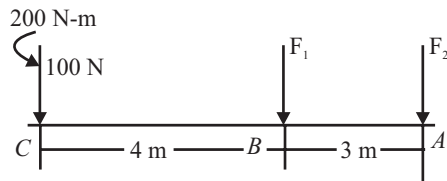

Fig. 7.42
Q. 38: Two parallel forces are acting at point A and B respectively are equivalent to a force of 100 N acting downwards at C and couple of 200Nm. Find the magnitude and sense of force F_1 and F_2 shown in Fig. 7.42.